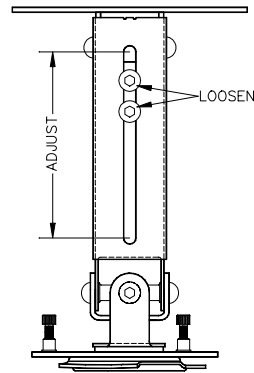

Fig 1
To adjust from 9" to 12 1/2" simply loosen the two (2) 8 (mm) allen screws from the center of the column, adjust the height desired and retighten. See (Fig 1).